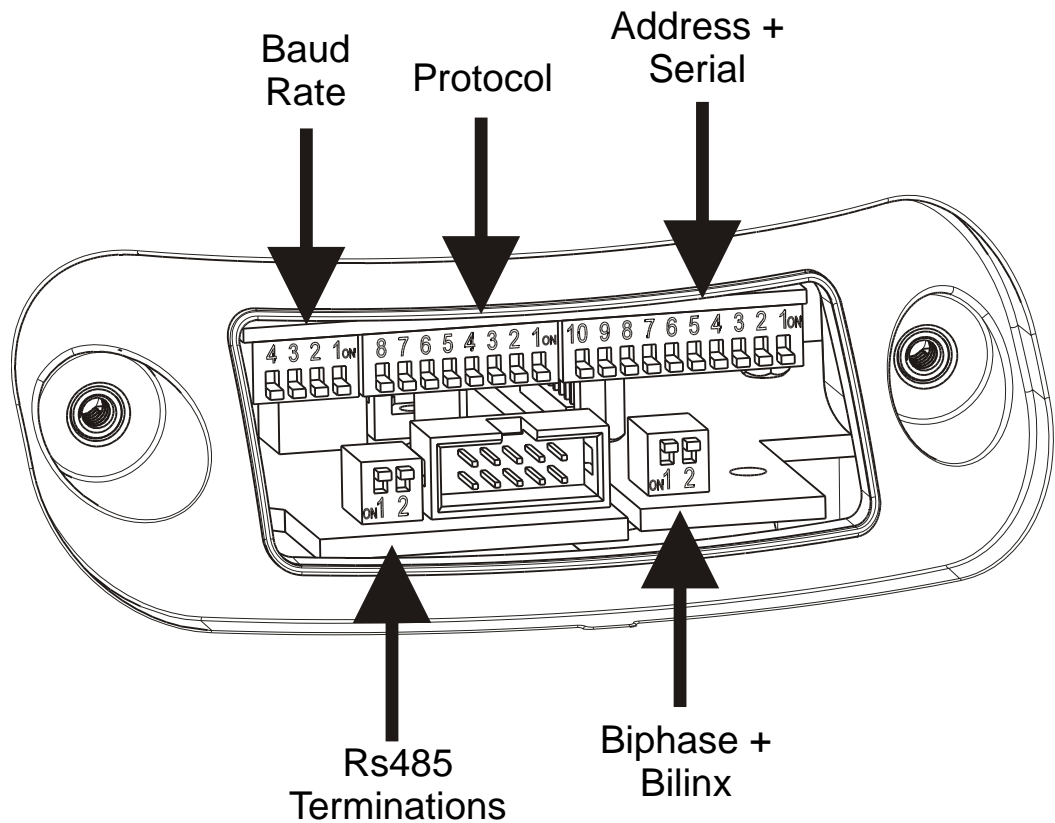

Fig. 7.1 Positioning the DIP Switches
2. Verify that the position of the DIP switches are the same as in *Figure 7.1*. Starting from the left, we see the baud rate, protocol, and the peripheral address selectors, respectively.